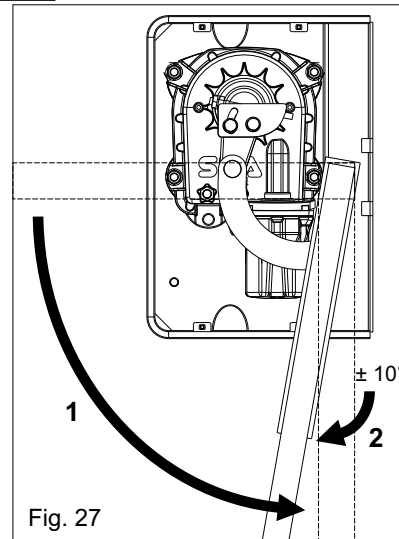

Fig. 27
6.3. Open the leaves completely (1) and bring them back of about 10° (2) (Fig. 27).